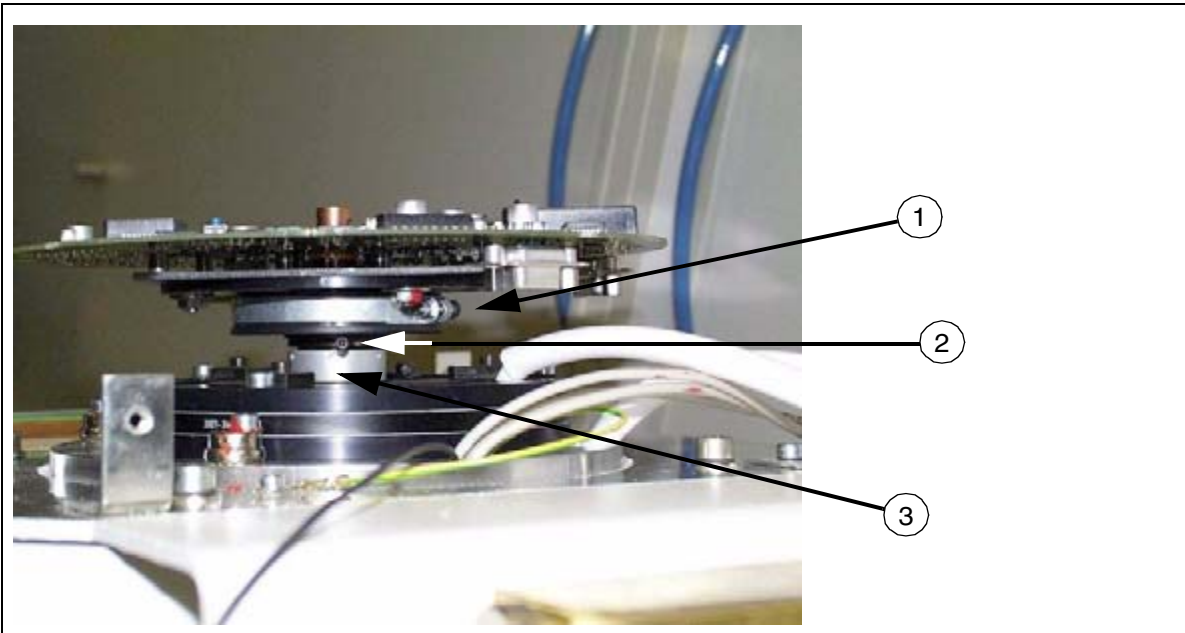

Fig. 8:
- Remove the Compact optics (Fig. 8 / p. 29). The sample exposure is representative of a 23 cm I.I.